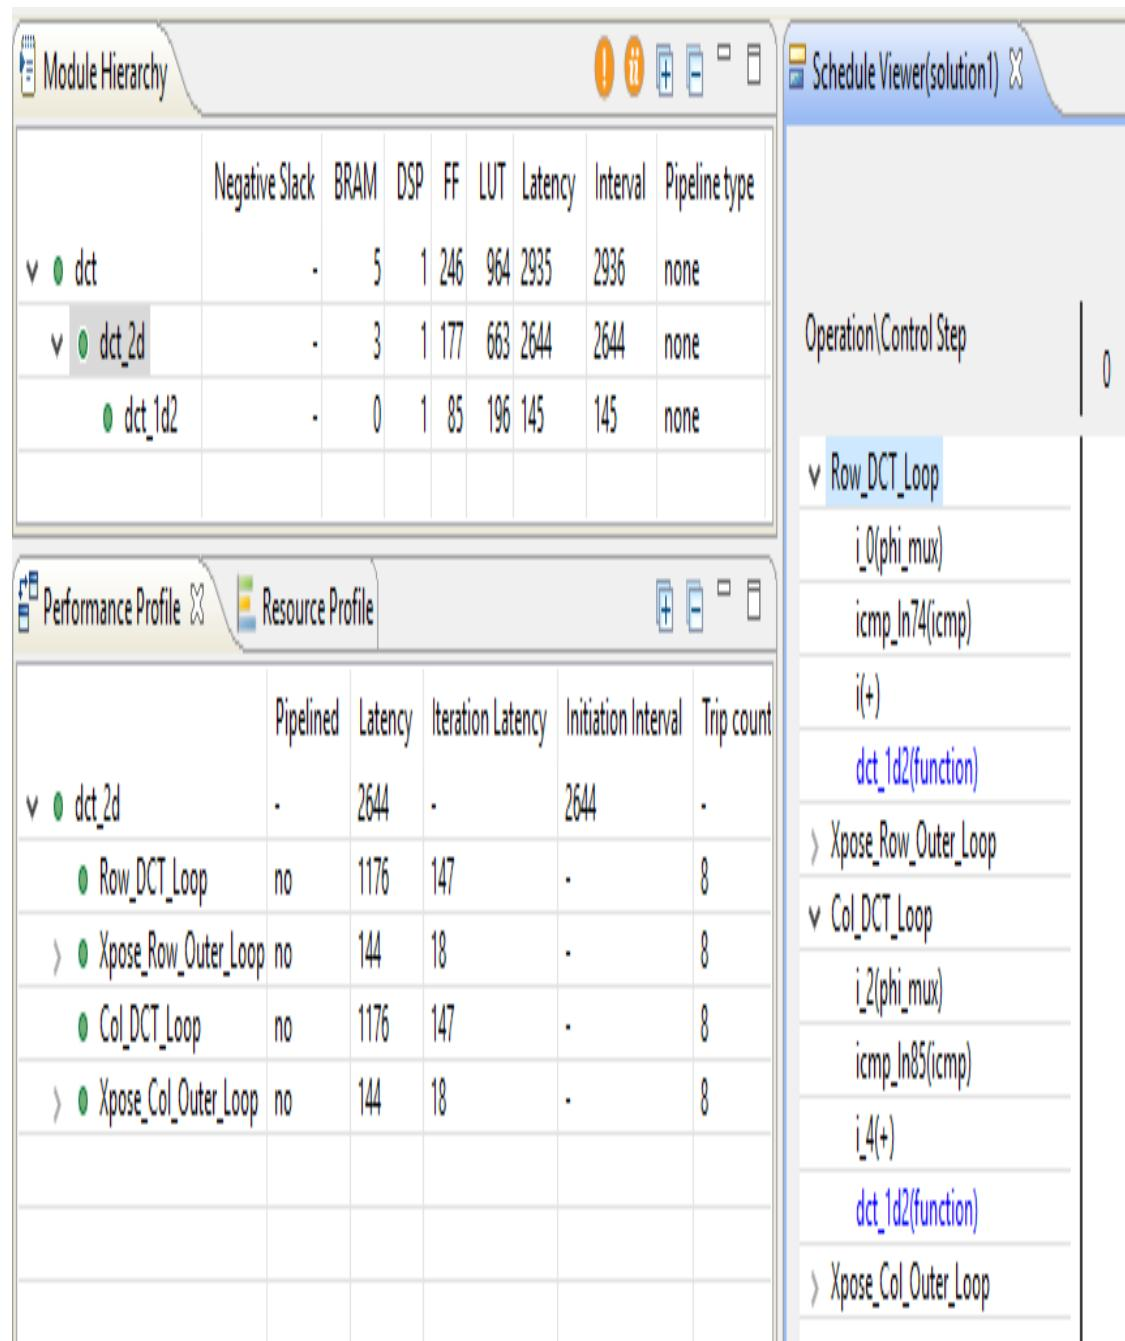

Figure 6-11: DCT_1D Performance View
Again, you can see a number of loops (shown in Figure 6-11). Loops ensure the design will have small area but the design will take multiple iterative states to complete: each iteration of the loop will complete before the next iteration starts.
7. Click loops **Row_DCT_Loop** and **Col_DCT_Loop** of the **dct_2d** block in the performance viewer to fully expand them, as shown in Figure 6-11.
9. Expand the loops in the **Performance Profile** and **Performance** view to see the view shown in Figure 6-11.
In Figure 6-11 you can see a series of nested loops (Row_DCT_Loop, Col_DCT_Loop) that can be pipelined.